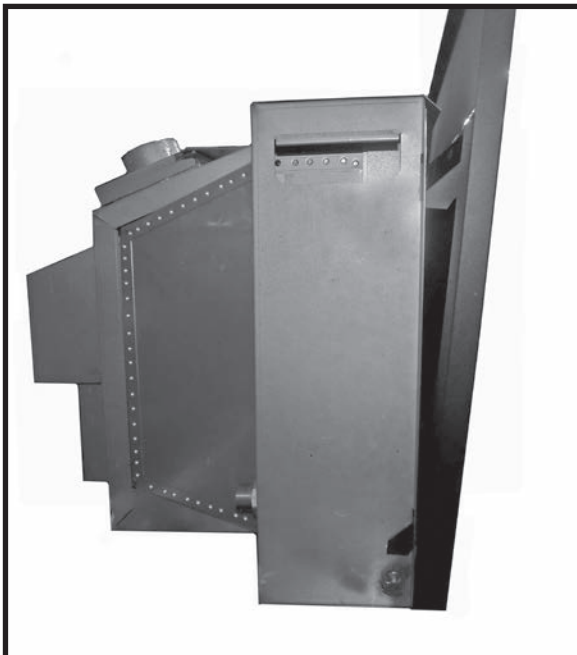

Figure 98: Mounting the backing plate.
2. Place the backing plate onto the fireplace by inserting its four hooks into the four slots on the fireplace frame (Figure 98).